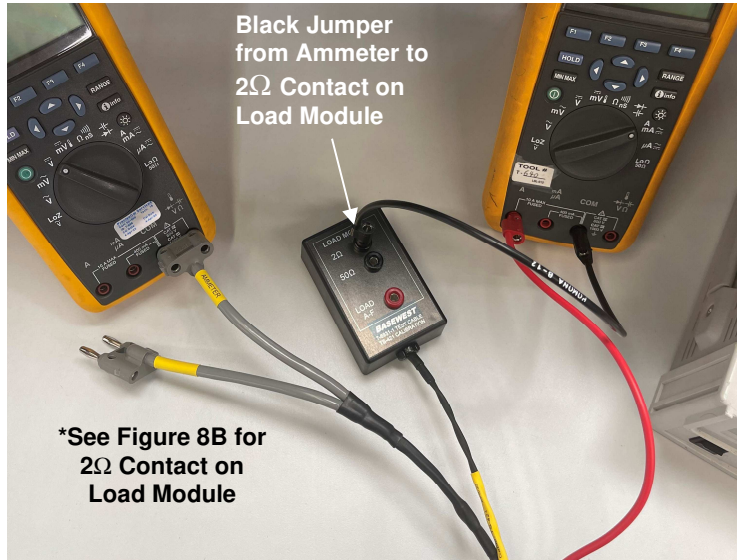
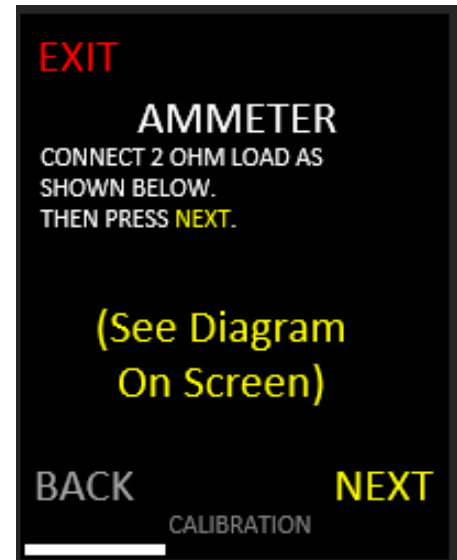

Figure 13. Ammeter (2Ω) Load Module
Figure 14. Ammeter (2Ω) Setup
- 7.2 Move the Black Jumper Lead on the Load Module from the 2Ω contact (Figure 13). Select NEXT to continue (Figure 14).